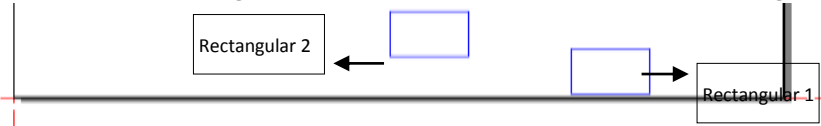

Fig.4-4
- a) The machine cut rectangular 1 and 2 in the first breadth, as shown in Fig.4-4: